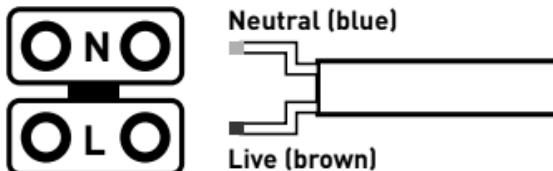

Fig. 3
- Feed the mains cable through the access plate and ensuring correct polarity is observed, carefully wire as shown in Fig. 3